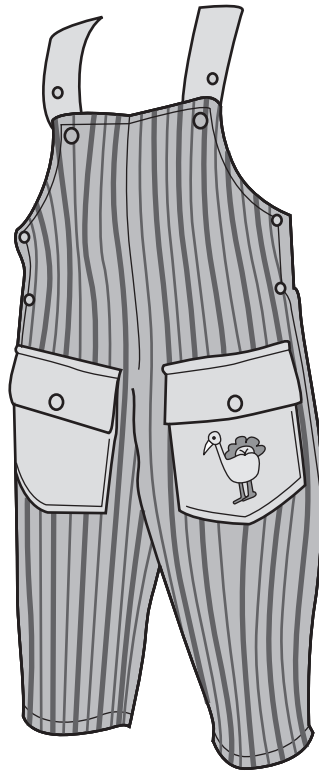

Fig. 11
Fig. 11 shows a pair of children's dungarees.
(a) Give **four** design requirements for the children's dungarees shown in Fig. 11. Justify each requirement.
- (e) (i) State a **suitable specific fabric** for the children’s dungarees as shown in Fig. 11. Give **two** performance characteristics that make the fabric suitable for this use.
- (ii) The children’s dungarees shown in Fig. 11 have patch pockets with an embroidered design. Describe, in detail, how the pockets would be manufactured and attached to the dungarees in a batch of 500. Use a flowchart and/or annotated diagrams to support your answer.